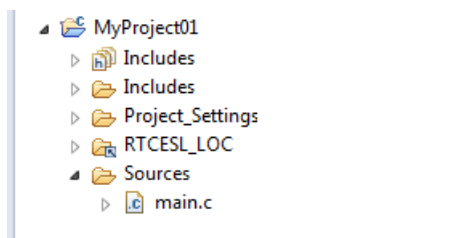

Figure 1-10. Projects libraries paths
5. Click Finish, and you will see the library folder linked in the project. See Figure 1-10.